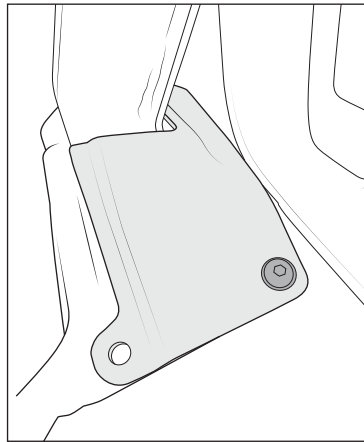

Figure 17
3. Install the tube closeout stampings to the main weldment. Loosely retain them to the weldment with one M8 button head bolt per side of each stamping (fig. 17).